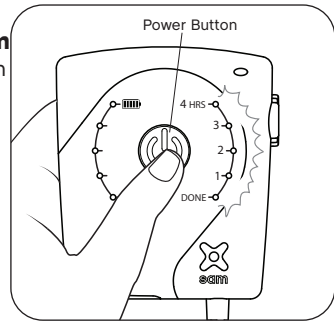

figure 11A: Press Power Button
A. Press and hold the *Power Button* on the **sam** Power Controller for at least 1 second to turn the device 'ON' (Figure 11A).
Press and hold the *Power Button* on the **sam** Power Controller *for at least 1 second* to turn the device 'OFF' (See Figure 11A for device diagram).